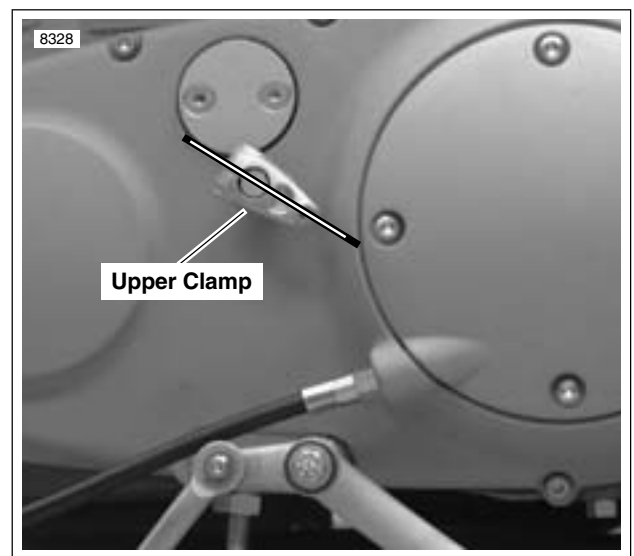

Figure 6-6. Upper Clamp Position
13. See Figure 6-6. Position upper clamp on splined shaft pointing just below front clutch inspection cover bolt. (Shift linkage rod in figure is disconnected for clarity.)